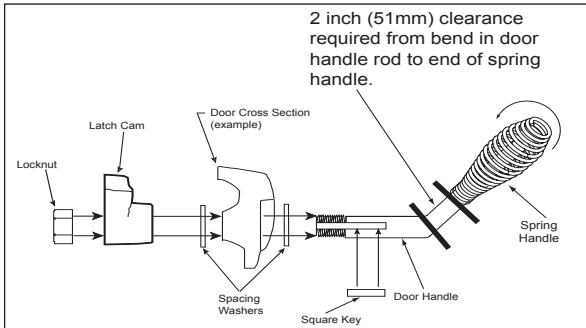

Figure 20.1
3. Pull the snap disc and spade connectors up and out of bracket as shown in **Figure 20.1**
3. Install second washer(s) as shown in **Figure 20.1**.
7. Install spring handle turning in a counter-clockwise motion to **required** 2 inch (51mm) clearance location on door handle rod. **Figure 20.1**.